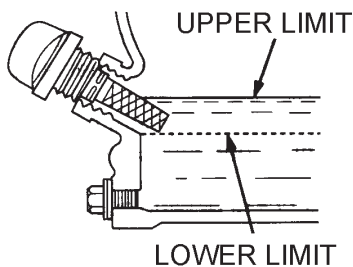

Figure 6. Engine Oil Dipstick (Oil Level)
4. If the oil level is low (See Figure 6), fill to the edge of the oil filler hole with the recommended oil type (Table 6). Maximum oil capacity is 1.16 quarts (1.1 liters).